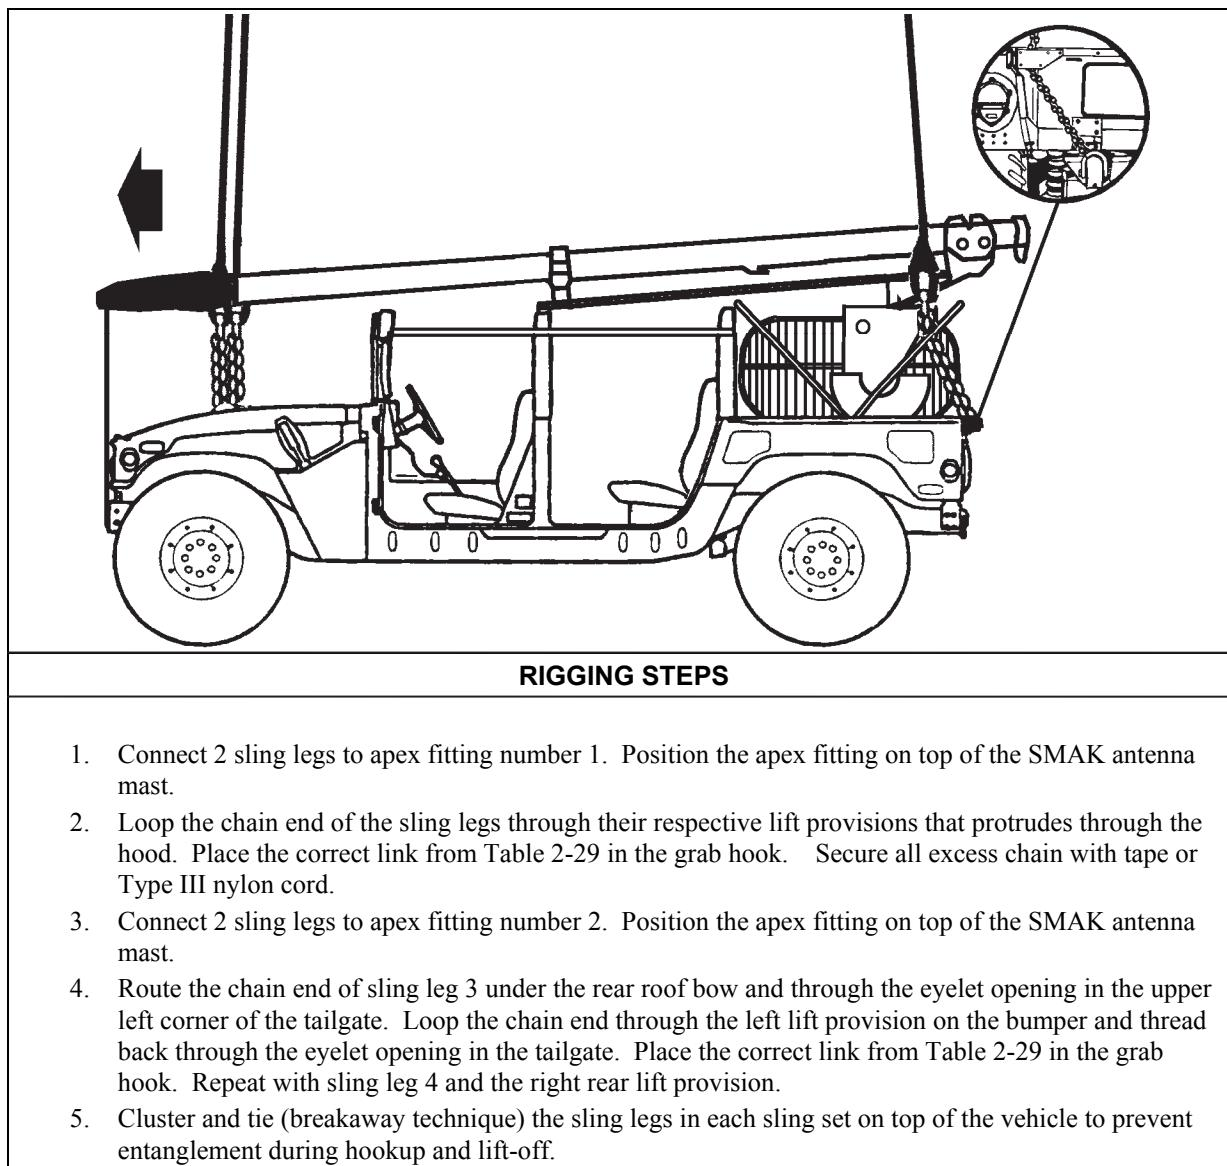

Figure 2-28. AN/MRC-142B Radio Terminal Set with 30M Mast on M998
- **Rigging.** Rig the load according to the steps in Figure 2-28.